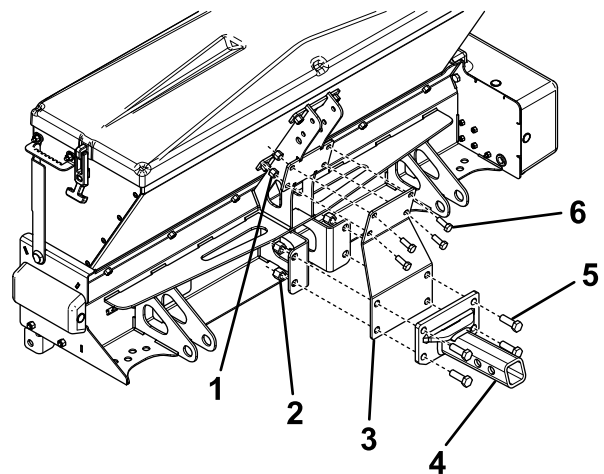

Figure 7
1. Loosely attach the top of the hitch plate to the spreader using 4 bolts (3/8 inch) and locknuts (Figure 7).
2. Attach the hitch to the hitch plate and spreader using 4 bolts (1/2 x 1-1/2 inch) and locknuts (Figure 7).